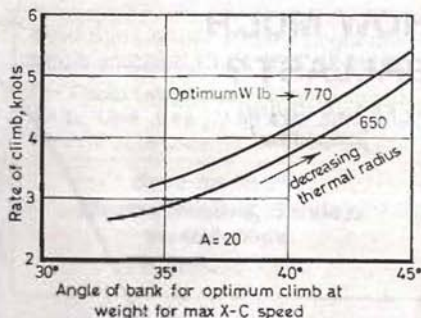

Figure 3
insert the appropriate bank angles. This would lead to a very confusing diagram, but a more meaningful plot is shown in Fig 3.
Similar lines can be inserted for higher weights. For example, Fig 3 also shows a line for  $W = 770$ lb, the max LBA (German airworthiness authority) figure for the Libelle. As we have previously noted, the amount of ballast required increases very rapidly as the rate of climb improves, so the two lines in Fig 3 are quite close together. At this juncture, it should be said that Fig 3 is not a particularly accurate plot since it involves two stages of interpolation. The difference in optimum bank angle for a given climb rate between the two lines in Fig 3 is small—about 2°. This is too small a difference for the pilot to be able to judge, even if he thinks he is indulging in precisely the best circling technique. In any case, his bank angle will not normally be very steady. So, while he can
- 1) A rough guide as to whether ballast should be retained is given by Fig 3.